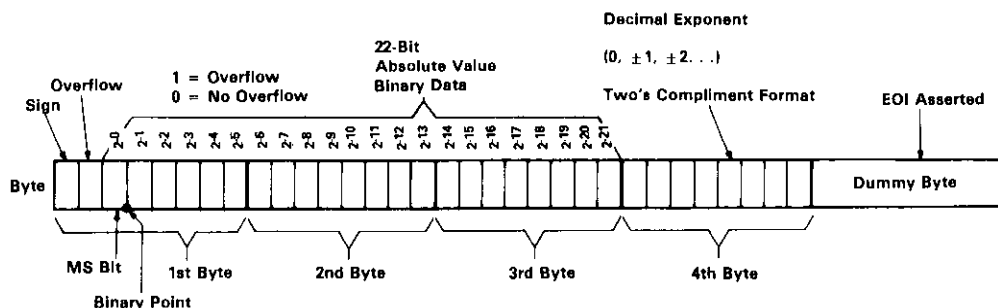

Figure 2-10. Binary Format
2. Byte 1: (Refer to Figure 2-10)